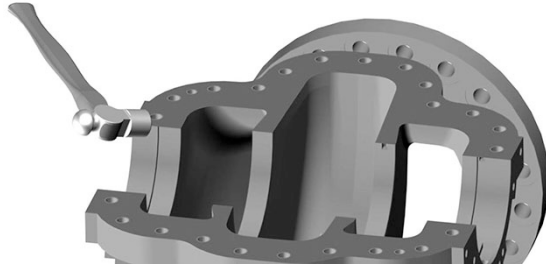

Figure 36: Trimming casing gasket using a bell-peen hammer
4. Trim the gaskets flush with the lower casing bores. (see Figure 36)